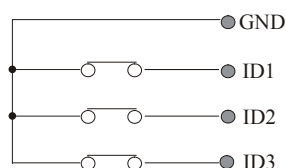

Fig. 3.3.1
The digital inputs ID1, ID2, and ID3 are optically insulated and suitable for 24Vac/dc signals with “normally closed” logic (at the contact opening there is alarm condition). To simplify the wiring it is possible to get the 24Vac/dc power supply from the GND terminal (see Fig. 3.3.1). In fact J3 jumper can be placed as follows:
**J3:** in position 1-2 (**INT - ID COM**): digital inputs powered internally (Fig. 3.3.1);